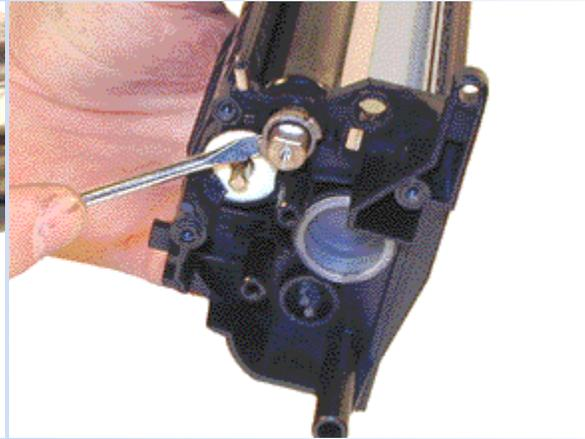

FIGURE 25
19. Pry off the metal bushing from the developer roller shaft short side. See Figure 25